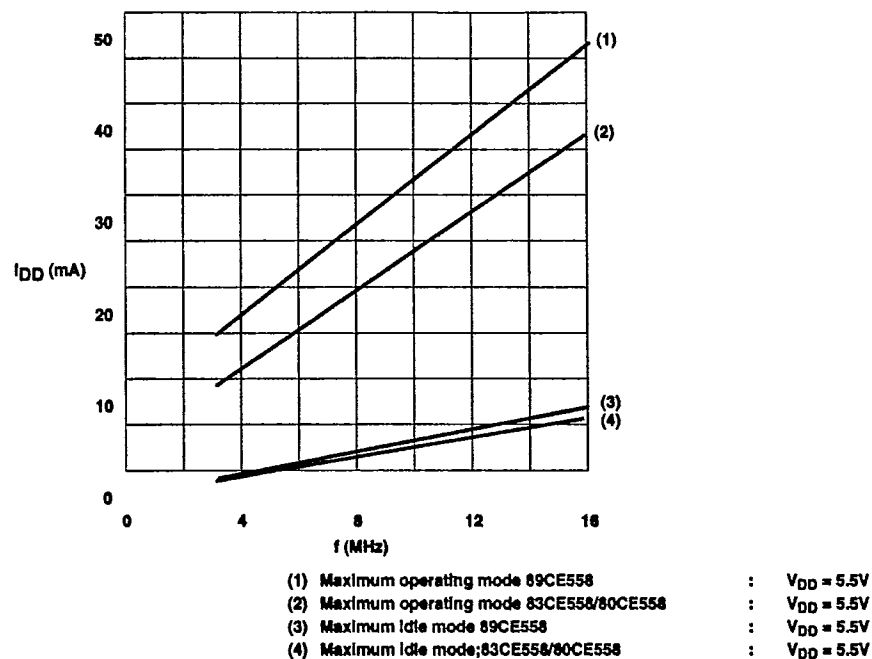

Figure 37. Supply Current (I_{DD}) as a Function of Frequency at XTAL1
1. See Figures 37 and 39 through 41 for I_{DD} test conditions.